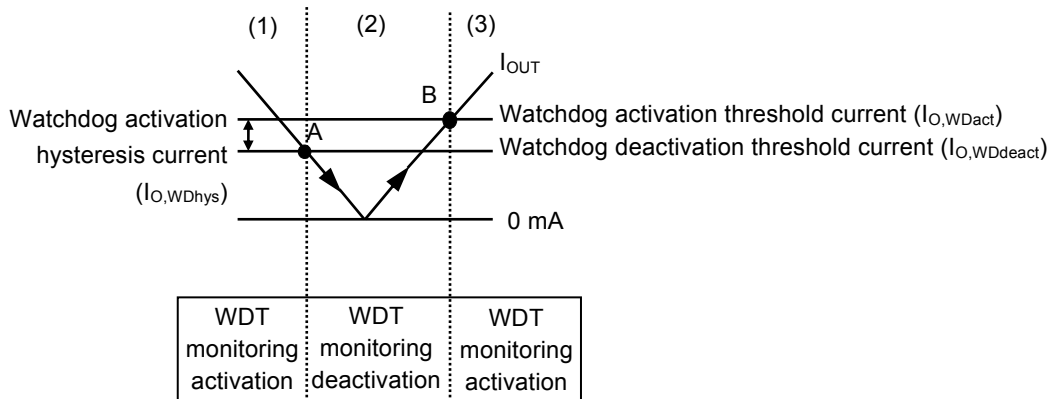

Figure 46 Autonomous Watchdog Operation Function
- (1) When I_{OUT} of the regulator is the watchdog activation threshold current ($I_{O,WDact}$) or more, the WADJ pin voltage (V_{WADJ}) is higher than the reference voltage (V_{ref}), and the output of the comparator (C1) is "H". At this time, the watchdog timer initiates the monitoring activation.
- (2) When I_{OUT} decreases to the watchdog deactivation threshold current ($I_{O,WDdeact}$) (point A in **Figure 46**) or less, V_{WADJ} decreases to V_{ref} or less and the output of C1 is "L". At this time, the watchdog timer deactivates the monitoring. Even if I_{OUT} increases, the watchdog timer continues the monitoring deactivation when I_{OUT} is within less than $I_{O,WDact}$.
- (3) If I_{OUT} further increases to $I_{O,WDact}$ (point B in **Figure 46**) or more, V_{WADJ} increases to V_{ref} or higher and the output of C1 is "H". And then, the watchdog timer initiates the monitoring activation.